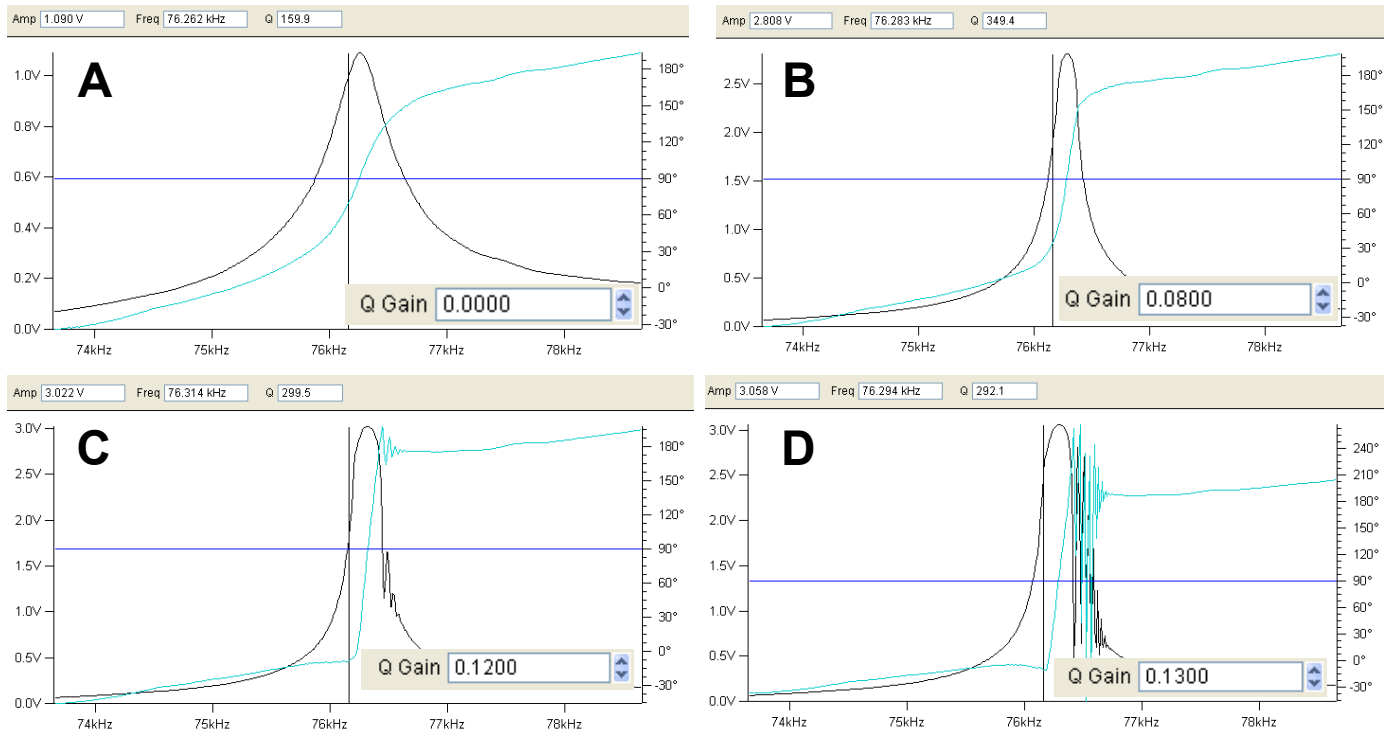

Figure 6.1.12: Q gain and repulsive imaging: A) post auto tune- no Q gain; B) almost ringing; C) ringing; D) freakout.
- Figure 6.1.12 shows this process with an AC 240 (2kHz Si lever) with some common visuals to look for, although ever lever shows different degrees of response relative to amount of Q gain. Panel A) shows a post auto tune- no Q gain is added. Panel B shows the response after a few Q gain increases/ phase centering executions- notice the top of the peak is starting to look more round than sharp; this means the ringing is about to start. ... As in Panel C). A this point, decrease the Q gain until the ringing goes away. Panel D) is shown as a Q gain and Phase freakout.
If all else fails, the tip could be too blunt (recall larger surface areas promote attractive mode- see Table 6.1.4)- **CHANGE THE TIP**, or the sample could possess charge that needs to be quelled/ dissipated using a 'Static Master' (see Figure 6.1.12).